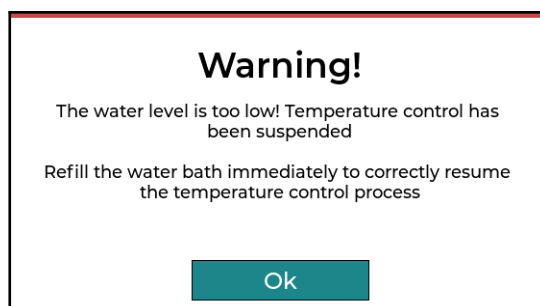

Figure 4.1: The warning dialog that will be displayed when there is not enough water to run the temperature control process
- display a warning message on the user interface (shown in Figure 4.1)